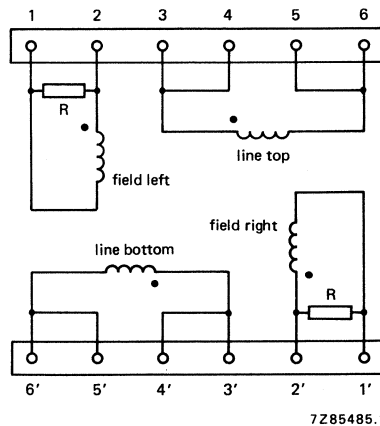

Fig. 2 Diagram of line and field coils; R = 270 Ω . The beginning of the windings is indicated with ●.
If a further improvement of raster geometry is required use can be made of correction magnets*, which must be fitted to mounting posts (1); posts a to be used for AT1039/08, posts b for AT1039/09. The unit has solder pins for connection. The pin numbering in Fig. 1 corresponds to that in Fig. 2.